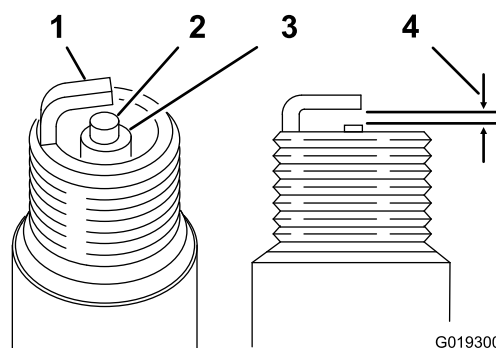

Figure 30
5. Set the gap on the plug to 0.7 to 0.8 mm (0.028 to 0.031 inch); refer to Figure 30.